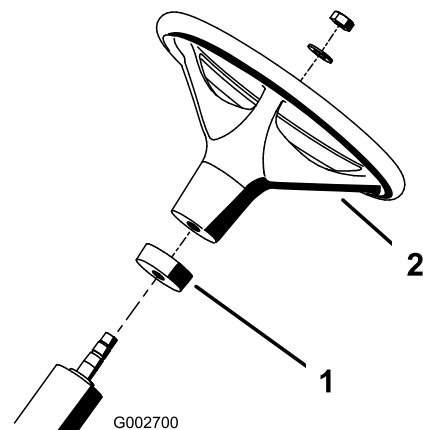

Figure 2
2. Slide the foam collar onto the steering shaft (Figure 2).
3. Slide the steering wheel onto the steering shaft (Figure 2).
4. Secure the steering wheel to the steering shaft with a washer and locknut (Figure 2). Torque the locknut to 20–26 ft-lbs (27–35 N·m).